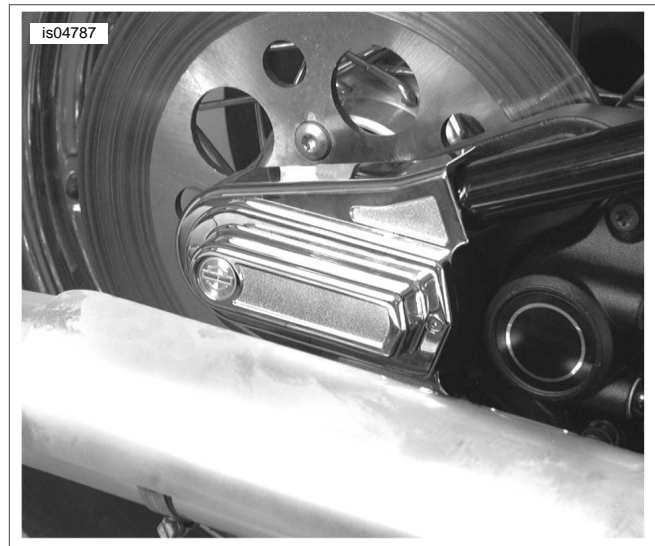

Figure 4. Installing Axle Cover Cap
7. See Figure 4. Install axle cover cap with flat head screws from kit.